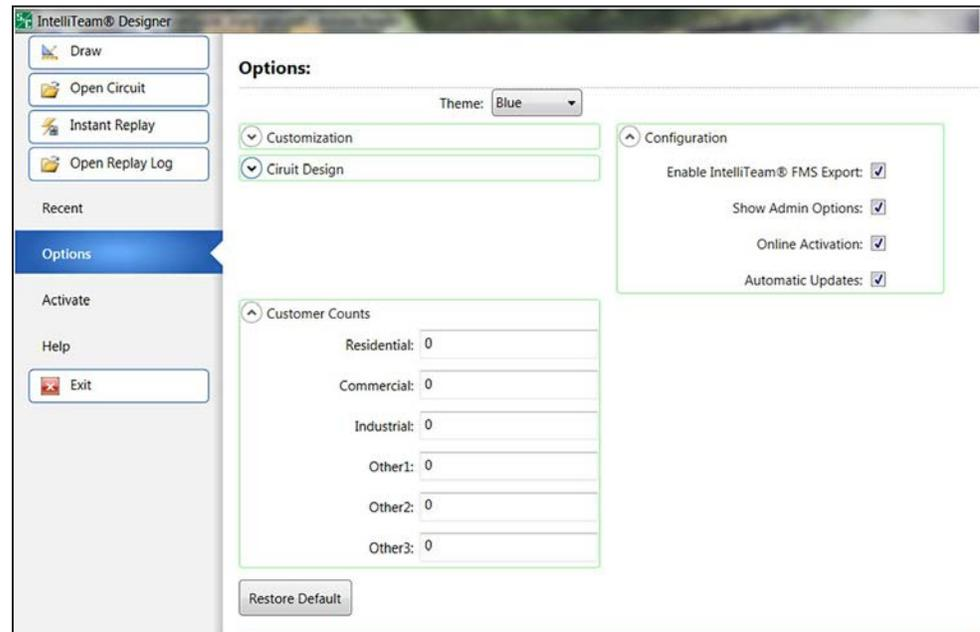
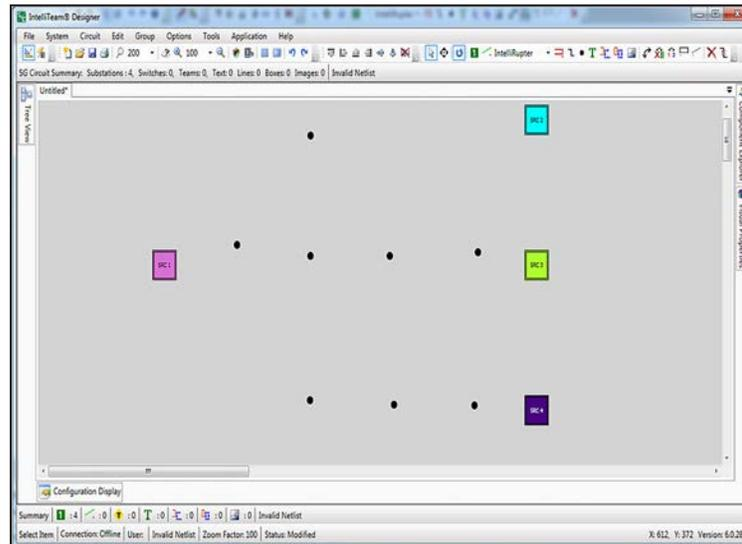

Figure 33. The start-up menu Options>Customer Counts section.
**Figure 38. Align SRC 1 and SRC 3.**
This setting adds customer counts to each team that will be used by the IntelliTeam FMS Feeder Management System for reliability calculations (e.g. CAIDI, CMI, etc.). Six fields can be configured: **Residential**, **Commercial**, **Industrial**, **Other 1**, **Other 2**, and **Other 3**. The default entry is 0, but the default entries can be modified in the **Start-up** menu under *Options>Customer Counts*, shown in Figure 33.
**STEP 5.** Select SRC 1 and SRC 3. If SRC 1 is above SRC 3, as is the case in Figure 33, click on the Align Bottom tool. If SRC 1 is below SRC 3, click on the Align Top tool. This action will result in SRC 1 and SRC 3 being in line and vertically centered with relation to SRC 2 and SRC 4. See Figure 38.